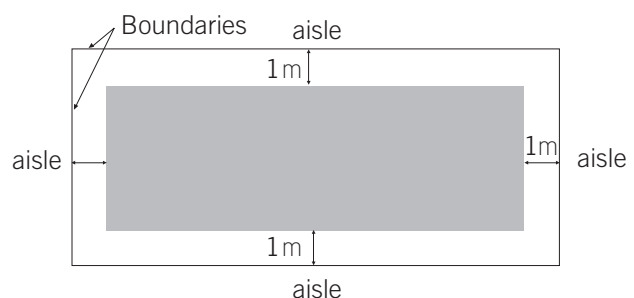

Fig.3 (Elevation, less than 7 booths)
a) Exhibitors contracting for less than 7 booth units: Height of all building materials is limited to 3.6m. However, within 1m from neighboring exhibitors and all aisles (set back area), the height must not exceed 2.7m, as Fig.1 / Fig.3.